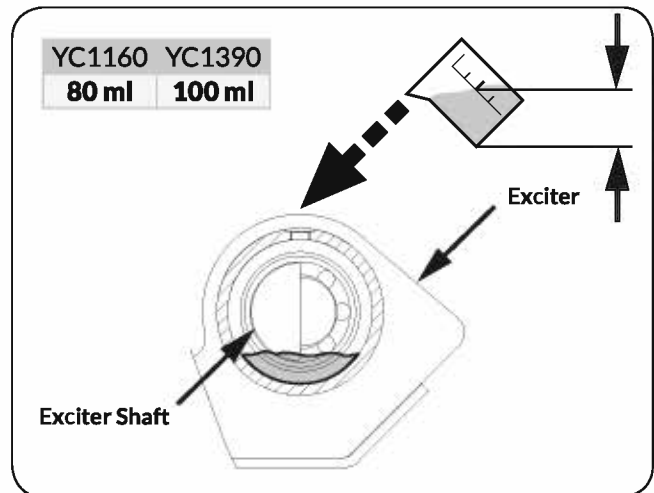

Figure 9c
- Fill the exciter housing with exciter oil. (See **Figure 9c**)